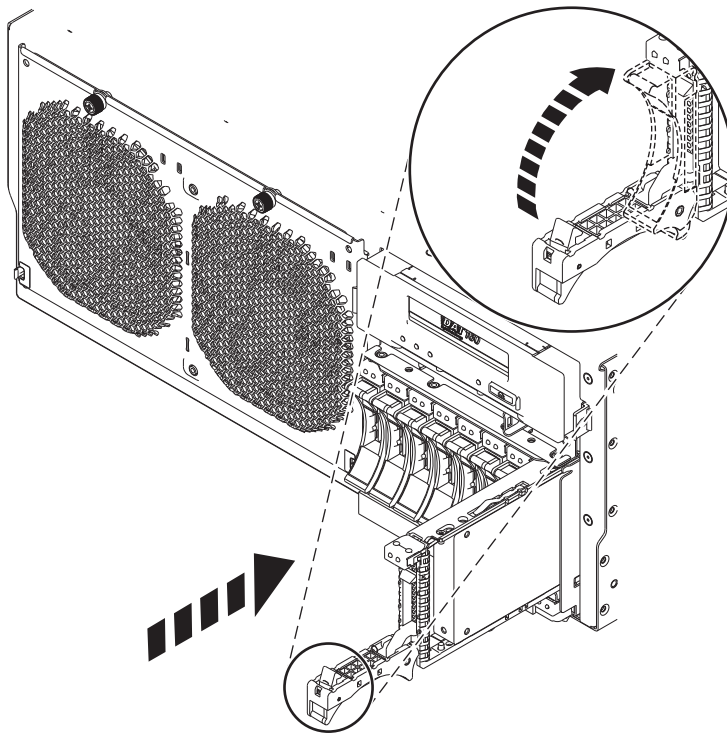

Figure 12. Installing the disk drive into the 8202-E4B, 8202-E4C, 8205-E6B, or 8205-E6C
7. Unlock the disk drive handle (A) by squeezing it and pulling it out toward you. If the handle is not all the way out, the disk drive does not slide into the system or expansion unit.
9. Slide the disk drive all the way into the system or expansion unit, and push the disk drive handle (A) in until it locks, as shown in Figure 12. The service indicator on the disk drive turns on.